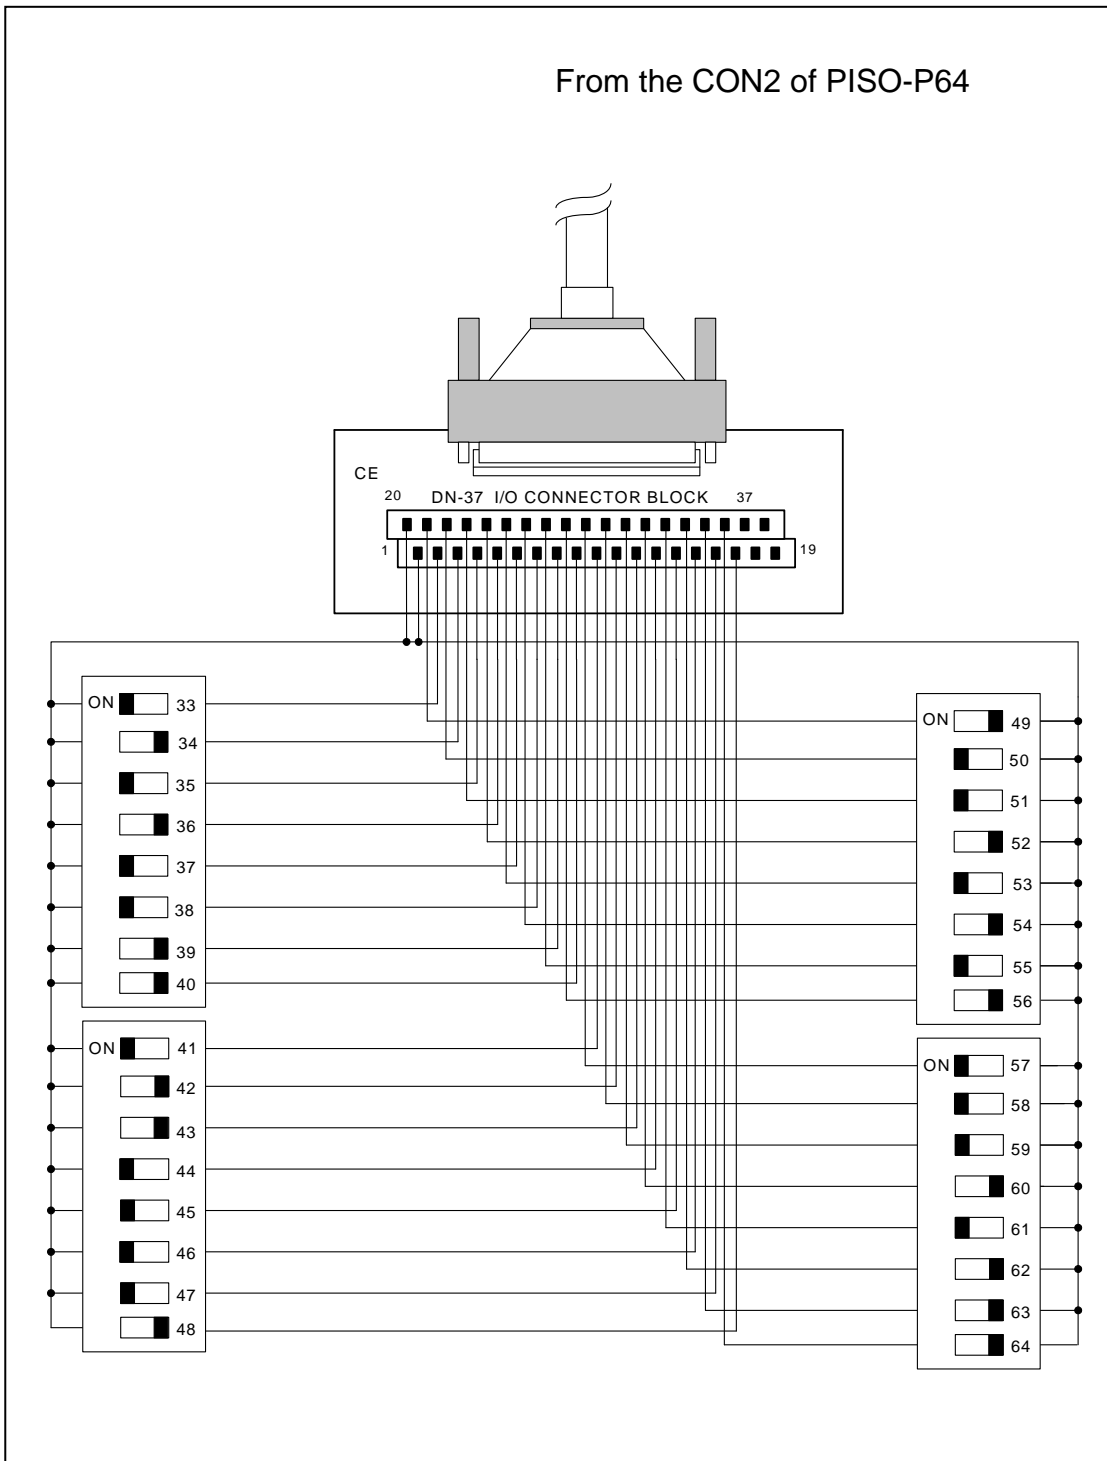

Figure 4-2-3. The circuit diagram of external device 2 for the digital inputs of PISO-P64
- Refer to Figure 4-2-3 for the circuit diagram of external device 2